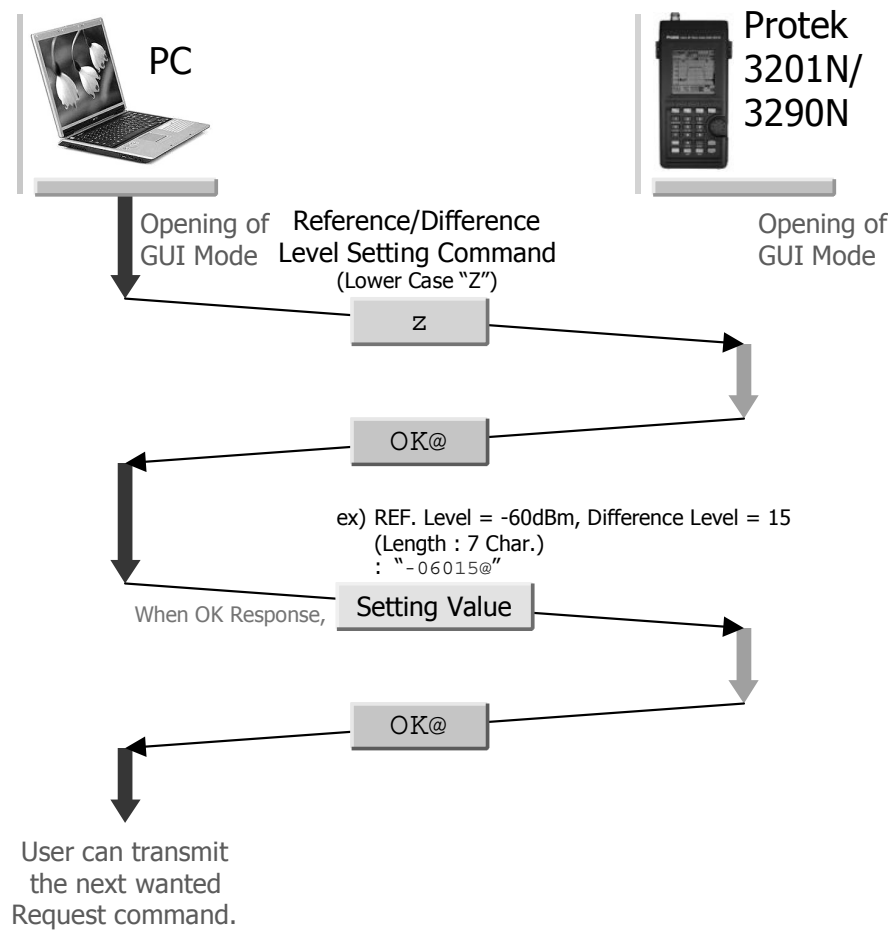

Figure 5.5. "Setting of Reference and Difference" Protocol
- 4) The using of this communication protocol is as below and refers the Figure 5.5.